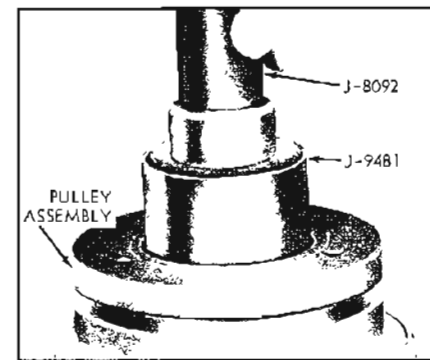

Figure 11-68—Installing Pulley Assembly
10. Drive pulley assembly onto hub of front head (see Figure 11-68) using Installer (J-9481) and Handle (J-8092).